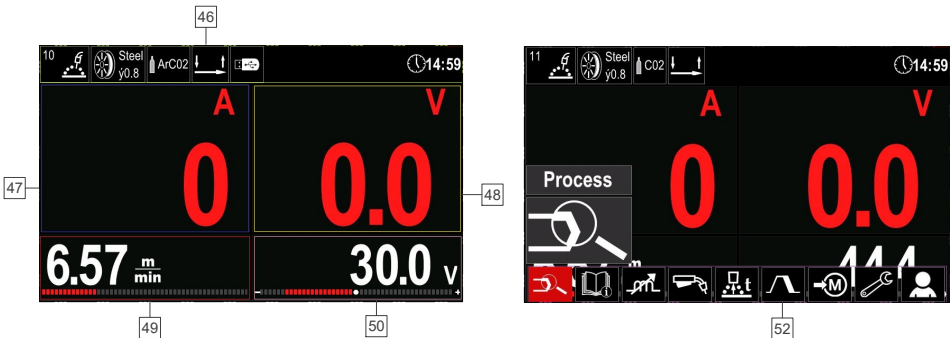
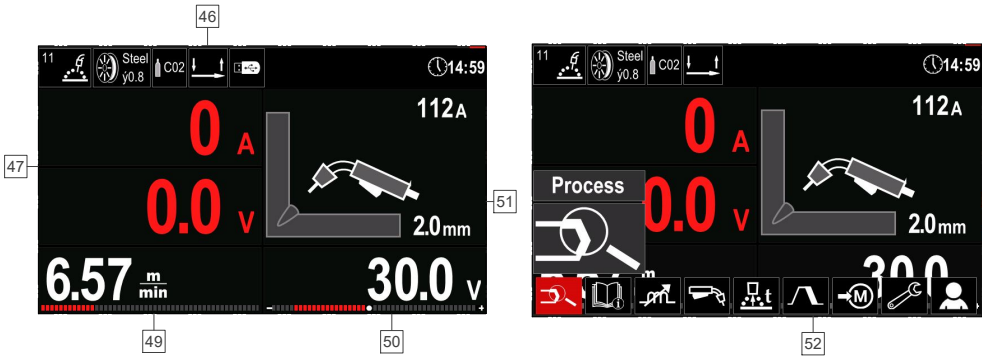

Figure 9
Figure 10
47. Measured value of current (Figure 9) and voltage Figure 10).